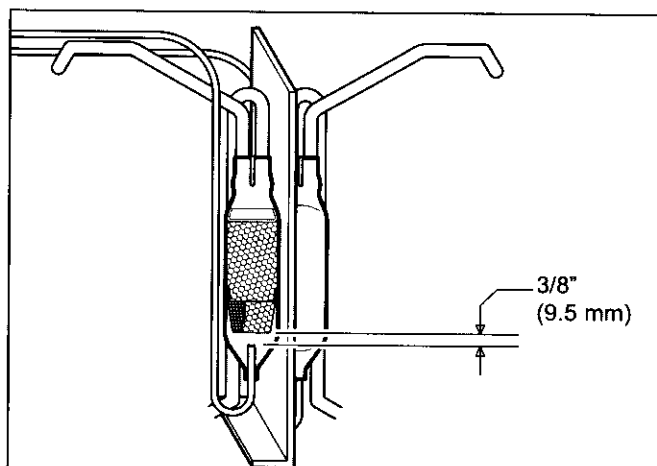

Figure 7-139. Filter-Drier Cut-Away View
**NOTE:** When installing replacement filter-drier, insert capillary tube until it touches screen inside drier, then pull capillary tube away from screen approximately 3/8" before brazing. (See Figure 7-139).